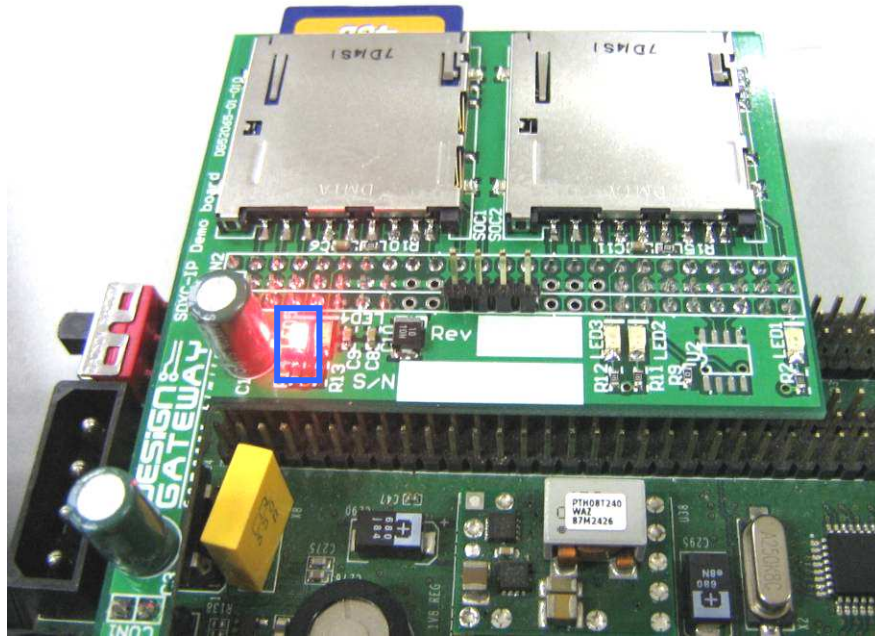

Figure 3 RED LED on SD mini board turn-on after configuration
- After FPGA start operation, LED on SDXC-IP Demo board will be ON, as shown in Figure 3.